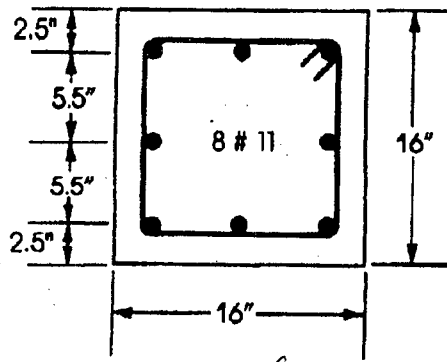

Figure 6
7. (a) A 16" × 16" square RC column is reinforced with 8 # 11 bars as shown in Figure 6. Check the adequacy of the column section if a factored axial load of 600 kips is applied with eccentricities $e_x = 3"$ and $c_y = 4"$. Given: $f'_c = 4$ ksi, $f_y = 60$ ksi and use the reciprocal load method. (17)